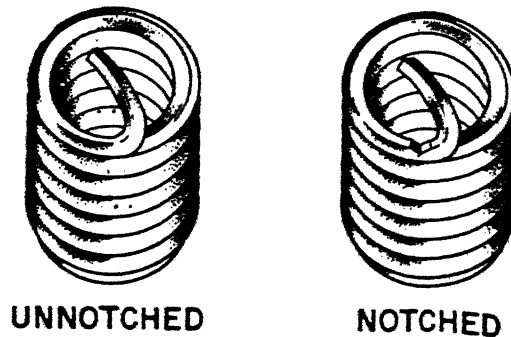

FIGURE 10-17.--One-piece threaded inserts.
- (1) d. (2) c. (3) b. (4) a.
38. Threaded inserts are commonly used in the design of aircraft, engines, and accessories to protect and strengthen tapped threads in light materials (for example, aluminum, brass, and plastics), particularly in locations requiring frequent assembly and disassembly. The one-piece threaded inserts shown in figure 10-17 are inserts that are precision-formed coils of diamond-shaped wire used as screw-threaded bushings. Special insert tools are required for installation.